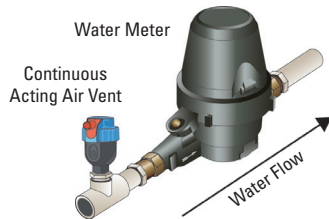

FIGURE 4
7. Installation of a Continuous Acting Air Vent before the water meter is highly recommended to eliminate air and ensure accurate flow readings (see Figure 4). For additional details on air vent options and installation requirements, refer to the Netafim USA Landscape & Turf Catalog.